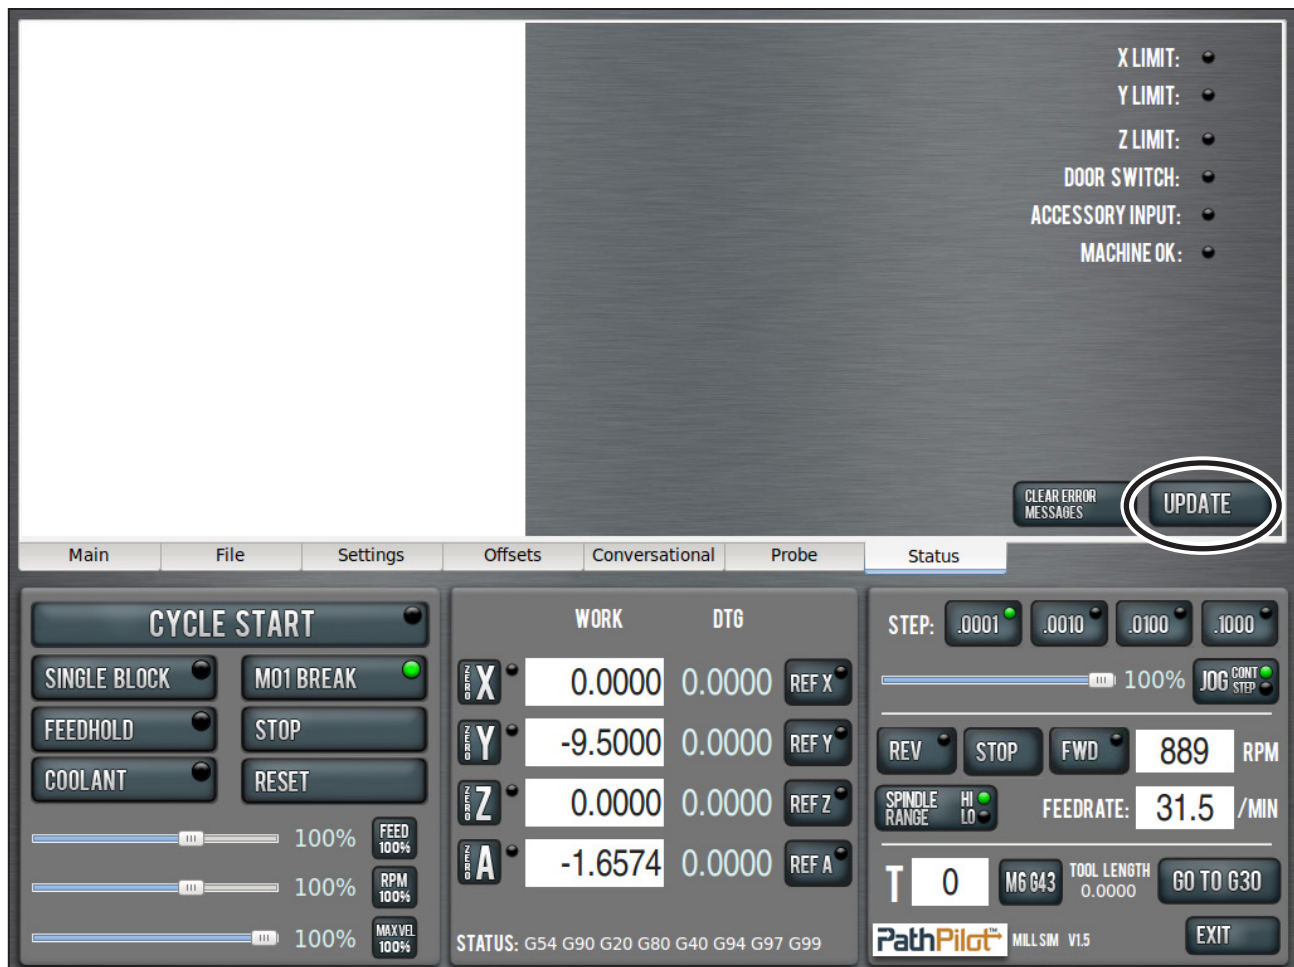

Figure 1
5. From the PathPilot interface, on the *Status* tab, click the *Update* button (see **Figure 1**).